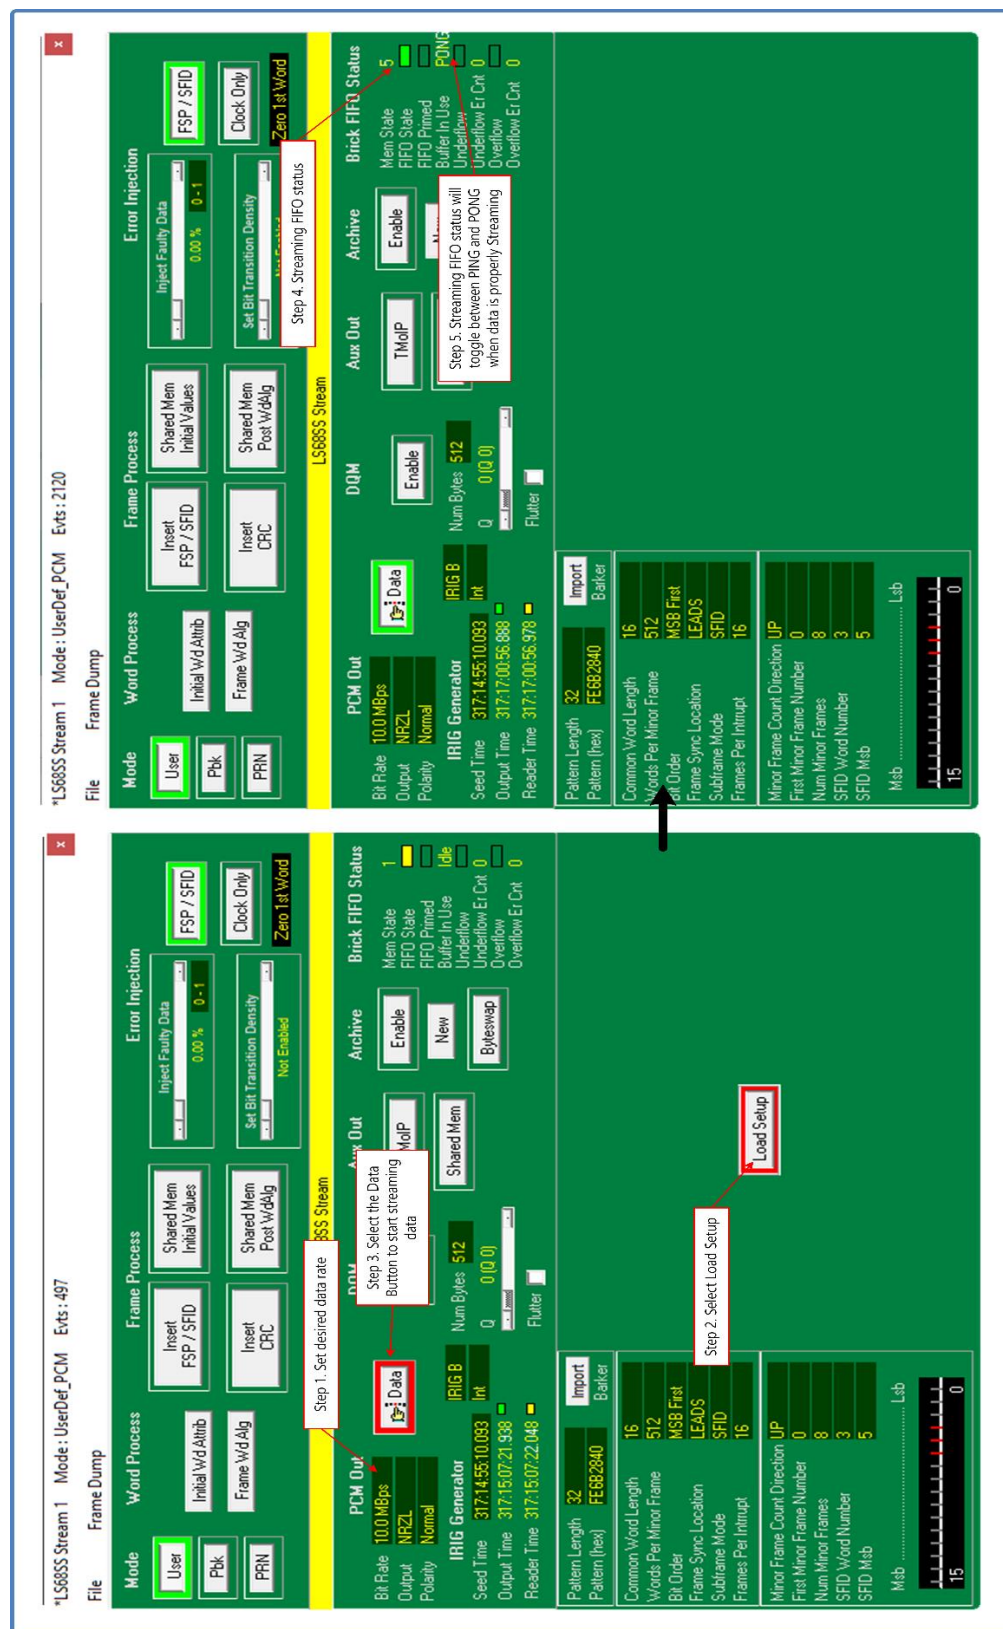

Figure 5-10 TDynaSim Final Streaming Data Steps
- 12.) Refer to Figure 5-10 for the final steps to start streaming data.